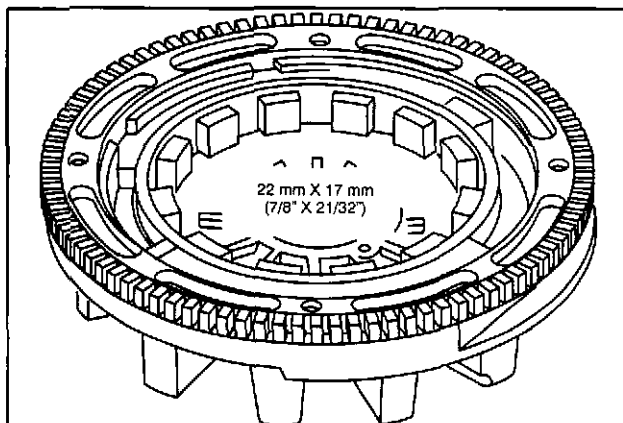

Fig. 7 - Small Magnet
OHV-Twin Cylinder Flywheels have a single ring of magnets which provide the magnetic field for the various alternator systems. There are two (2) sizes of flywheel magnets. The size of the magnet determines the alternator output Fig. 7 and Fig. 8.